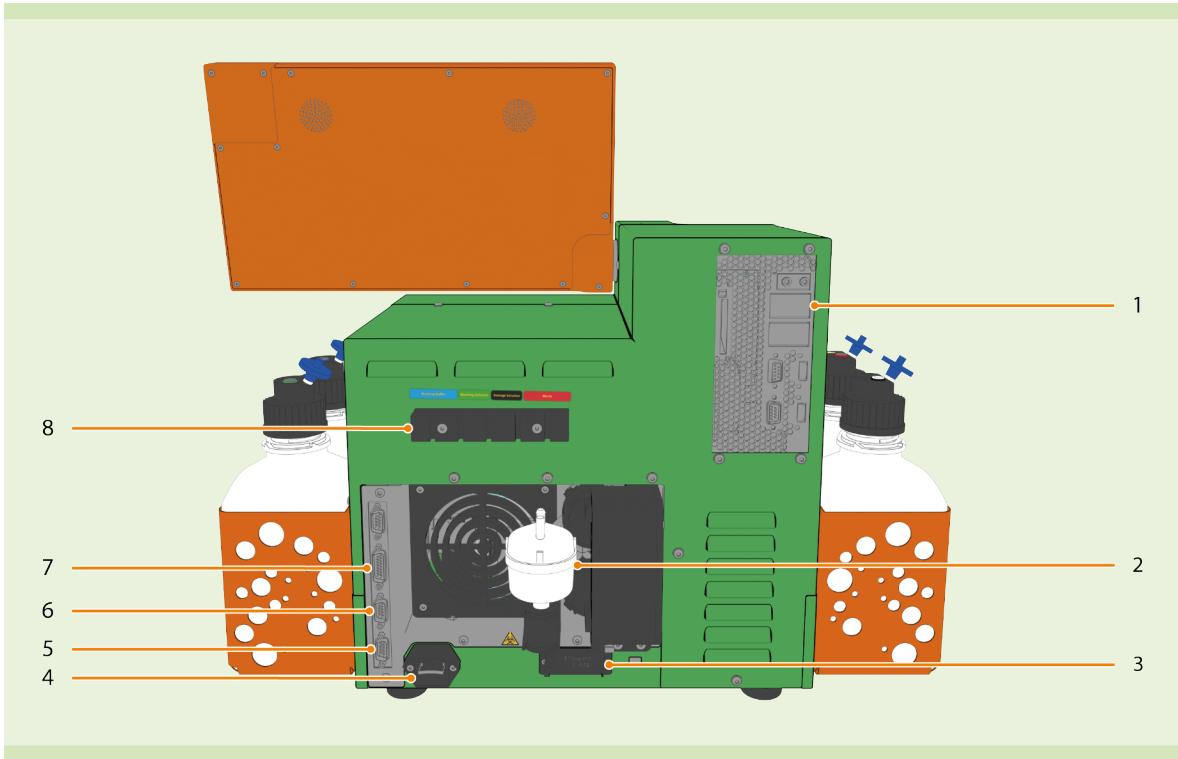

Figure 1.3: Rear view of the MACSQuant Analyzer 10, VYB, and Analyzer 16
- 1 Install only one fluid bottle at a time. Place the new bottle (3) into the orange bottle holder (4). Note the corresponding color coding.
- 3 Remove the caps from the bottle distribution block and connect the tubing to the appropriate color-coded fluid port of the bottle distribution block on the rear side of the instrument. Refer to **Figure 1.3**.
- 4 Note the color coding of the tubes and connect them to the respective bottle closure (2).
- 5 Connect the 4-end fluid sensor cable to the port labeled **Bottle Sensor** at the rear side of the instrument. Refer to **Figure 1.3**. Fasten the screws of the sensor cable plug securely.
- 6 Note the color coding and connect each fluid sensor cable to the respective bottle closure (1).